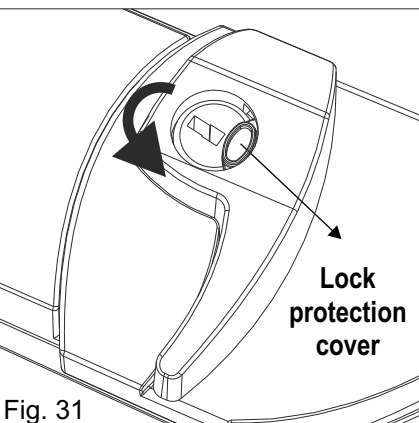

Fig. 31
- 1) Turn counter-clockwise the lock protection cover (Fig. 31)